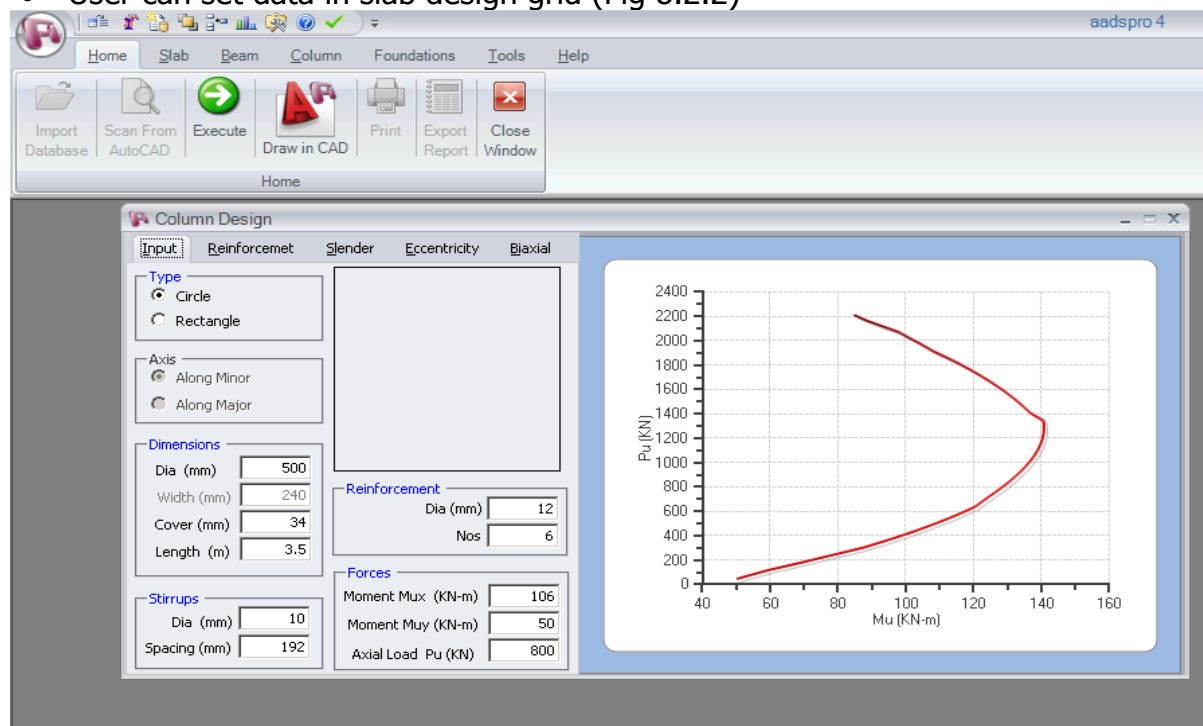

Fig 8.2.2
- User can set data in slab design grid (Fig 8.2.2)